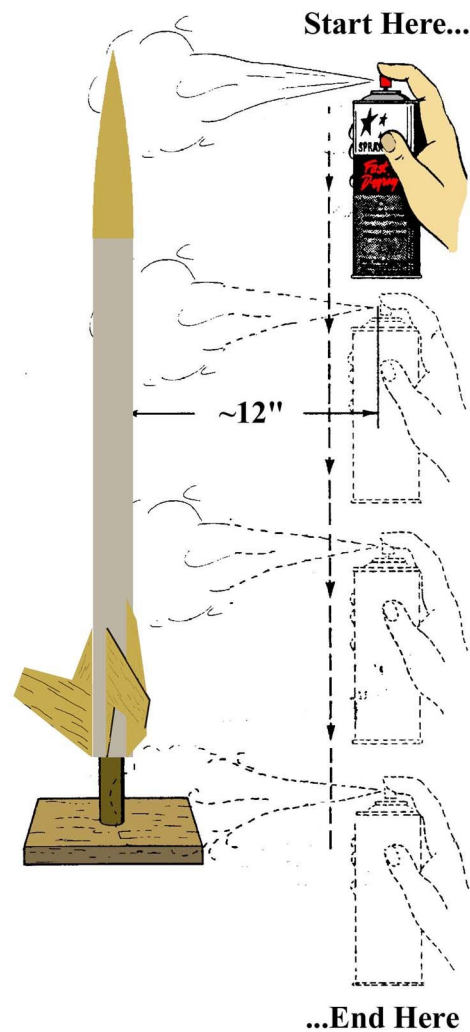

Figure 10
- **Step 18** The illustration in Figure 10 shows the correct way to spray your model, regardless of the equipment used. Always spray the model from top- to-bottom, never from side-to-side, or bottom-to-top. Use the CD-R spindle as a cheap holding spike. Maintain a distance of about 12" between the tip of the spray and the model. This step applies to primers, paints, and final gloss coats.